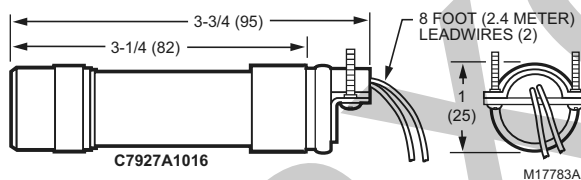

Fig. 5. C7927 detector dimensions in in. (mm).
- a. For the internal block diagram of the RM7824A, see Fig. 5.